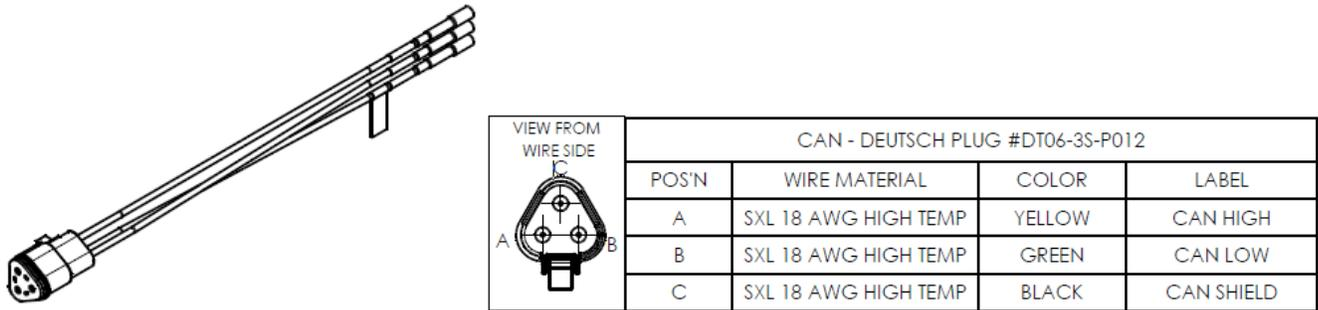

Figure 29. CAN Data Harness Pigtail (37252000)
2. Connect the C1 triangle CAN connector to a CAN bus splitter. If the MVC Touchscreen Display is at the farthest end of the CAN bus (which is typical), connect a 120 termination plug in the splitter as well. Use the remaining end of the CAN splitter to run CAN bus to the valves. The triangle CAN connector on the C1 pigtail is shown in Figure 29. Be sure the CAN bus cable is constructed in accordance with the recommendations that follow Figure 29.